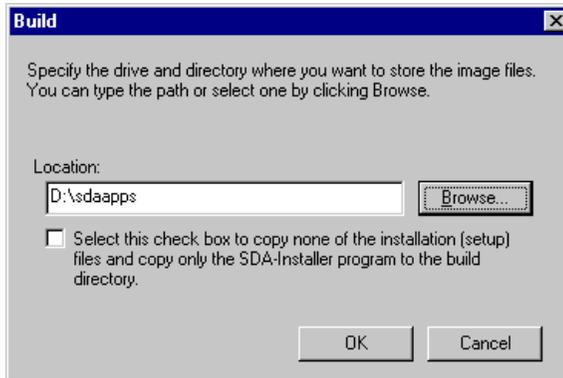

Figure 74. Image build location
38. In D:\sdaapps (or the directory you entered in Figure 74), a new directory has been created: SDA ITSOSDA. To simplify matters, rename the SDA ITSOSDA folder to ITSOSDA.